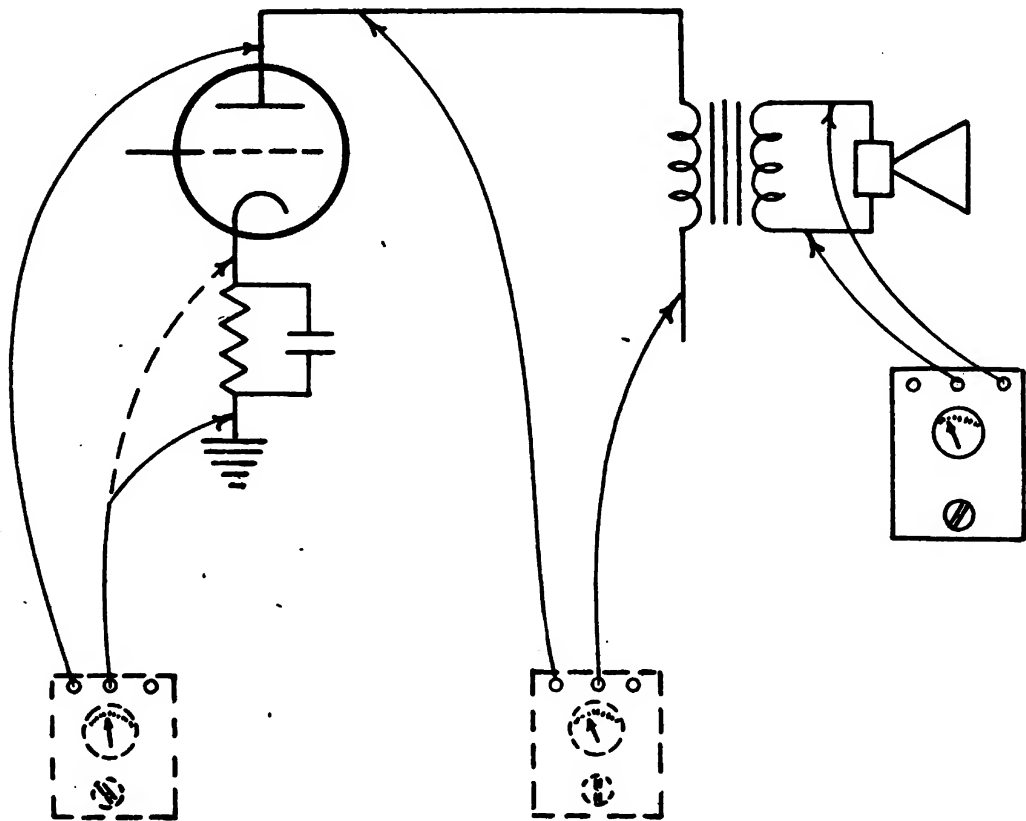

FIGURE 69.—Connecting output meter.
*c.* The output meter may be connected in the receivers output circuit in various ways. Figure 69 indicates several of these methods.